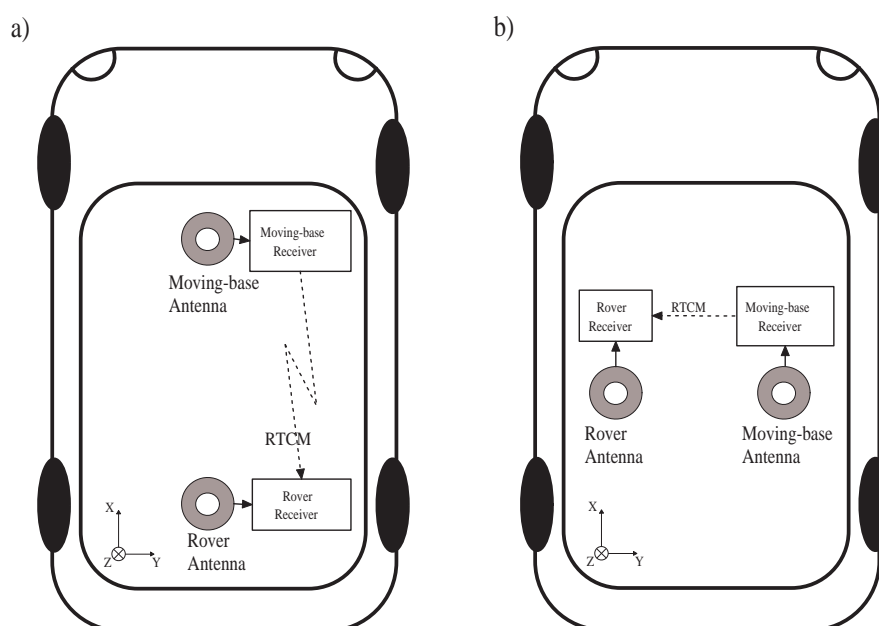

Figure 1.2-3: Moving-base attitude determination setup. a) default configuration.
The heading and pitch of a vehicle can be derived from the orientation of the baseline between a base and a rover antenna when both antennas are attached to the vehicle. The base antenna is connected to a first receiver configured as RTK moving base station. The rover antenna is connected to a second receiver configured as RTK rover and accepting the RTCM stream from the first receiver. This is illustrated in figure 1.2-3.
1. Attach two antennas to your vehicle. The default antenna configuration is as depicted in figure 1.2-3 a). It consists in placing the antennas aligned with the longitudinal axis of the vehicle. If such configuration is not possible, you will have to provide additional information to the receiver, as explained below. For best accuracy, try to maximize the distance between the antennas, and avoid significant height difference between them.
5. By default, the attitude angles are computed assuming that the two antennas are aligned with the longitudinal axis of the vehicle, and that the moving-base antenna is in front of the rover antenna (see figure 1.2-3 a)). If you cannot place the antennas in such configuration, the reported attitude angles will be biased. There are two ways to remove these biases:
- (a) The biases can be removed by telling the receiver where the moving-base antenna is located in the vehicle reference frame (see appendix A). This is done by specifying the coordinates of the baseline between the rover ARP and the moving-base ARP in the X, Y and Z directions. For example, in the configuration b) of figure 1.2-3, assuming that the distance between the antenna ARPs is 1 meter, you would issue (on the rover receiver):